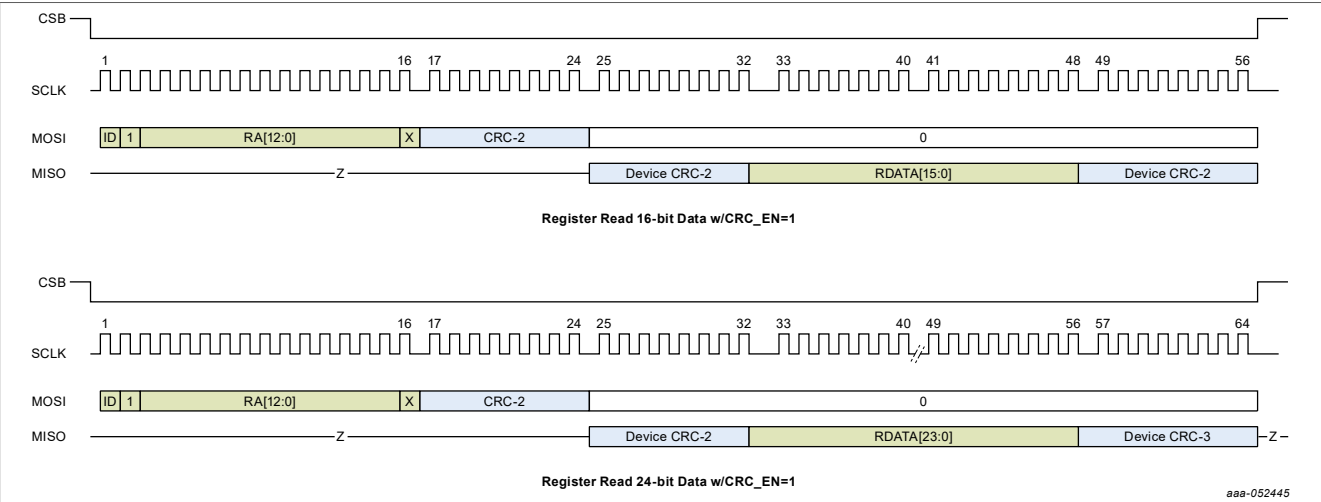

Figure 37. Host reads data from the 16- and 24-bit register
Figure 37 shows host read data from the 16-bit and 24-bit register. The host sends the first CRC byte, calculated based on the first 16-bit word, which includes the device ID bit, RW_L bit, RA bits, and don't care bit (0). The second CRC byte is from the device to the host. It is calculated based on RDATA from the device to the host.